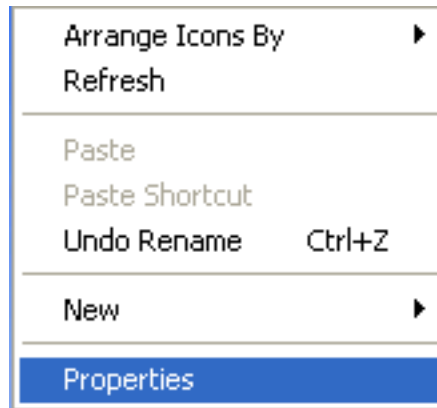

图 3-1
1. Click on right key on the blank of desktop, there will be "Option", as shown in figure 3-1.